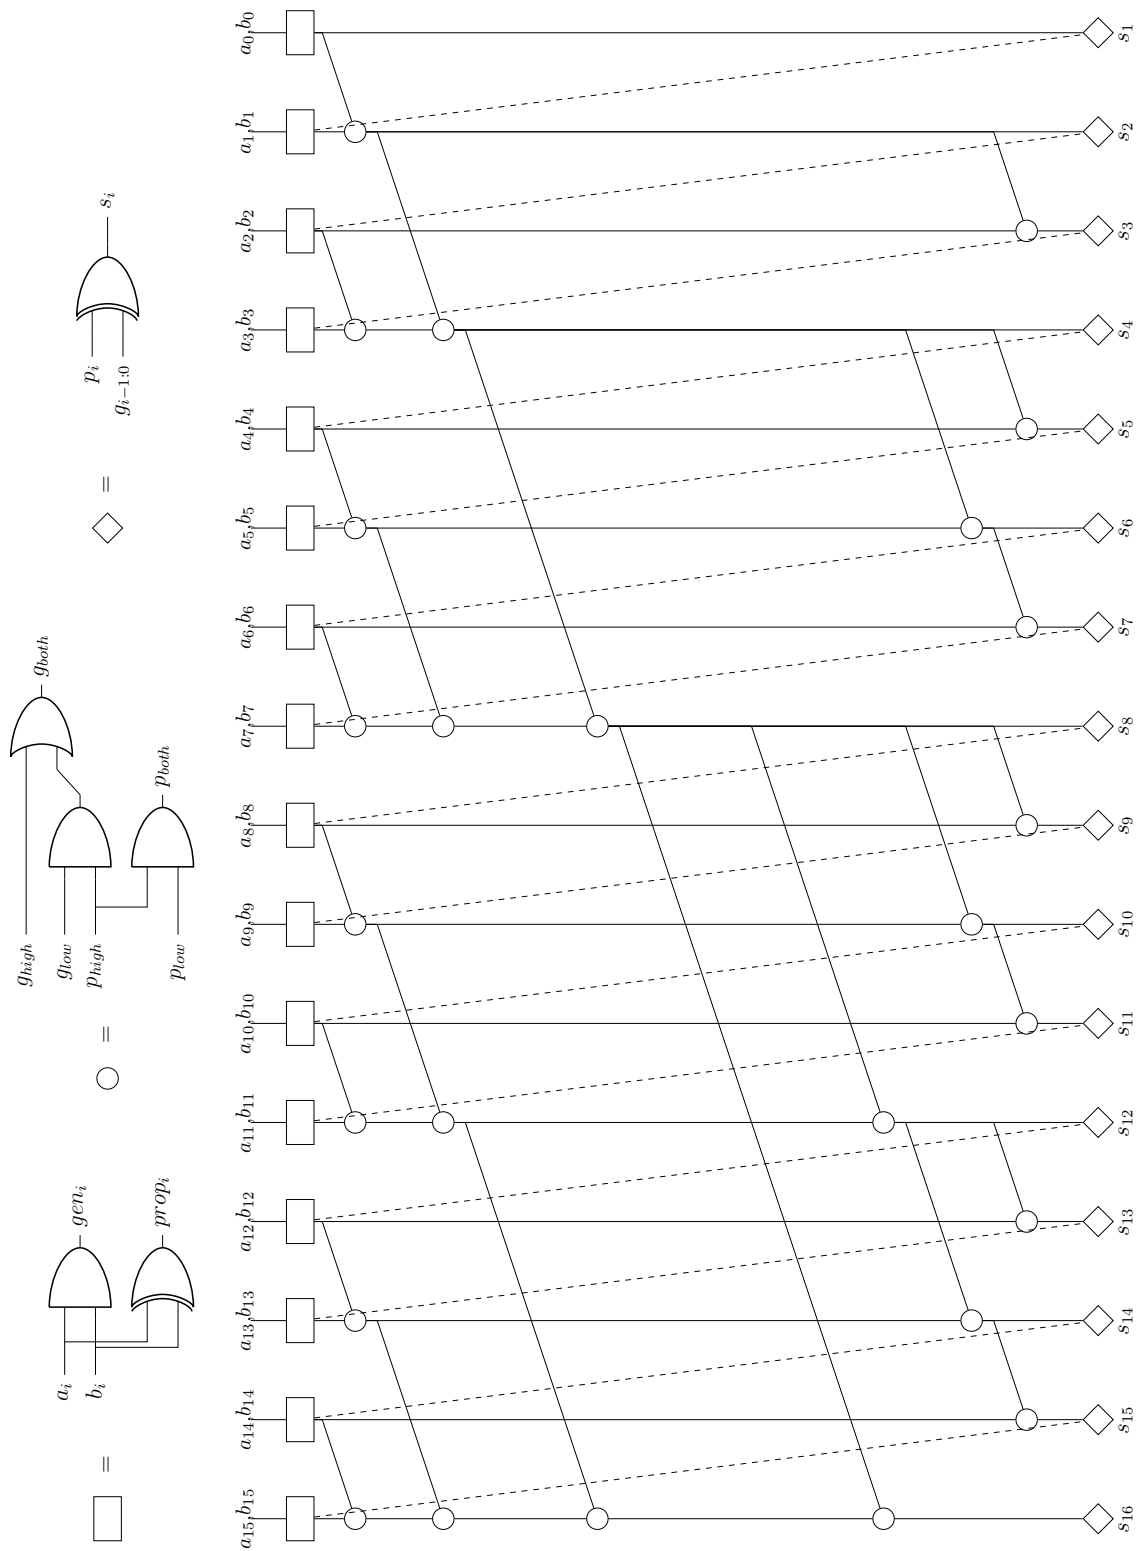

Figure 1: Schematic of the 16 bit Brent-Kung adder
By now, you should be familiar with the design, validation and characterization in hspice of standard gates. One step further, in this session we will target a more complex structure: **the adder of a microprocessor**. Concretely, the Brent-Kung topology depicted in figure 1. A Brent-Kung adder is a traditional prefix adder, whereby a carry-generate and a carry-propagate is generated for specific sections in a logarithmic tree. In this session we will discuss speed improvements to the Brent-Kung adder. The adder is implemented in hspice and stimulated with a .vec file.
1. Discuss and draw what you think the critical path is on figure 1.
The Brent-Kung adder has a very asymmetric structure, compared to other adder topologies. As you can see on figure 1, the adder consists of forward and reverse tree structures.
1. Identify in figure 1 the nodes that are heavily loaded.
3. **To reduce the load of a node, one could insert extra inverters as a buffer mechanism.** Looking at figure 1, which large capacitive nodes would you target? Where would you place the buffers? Re-design the Brent-Kung adder and verify the correct functioning of the adder.